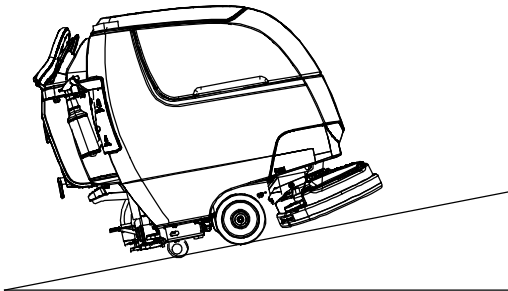

FIG. 100
2. Use a ramp that can support the machine weight and operator and carefully load machine. Do not operate the machine on a ramp incline that exceeds a 21% grade level (Figure 100). A winch must be used when ramp incline exceeds a 21% grade level.